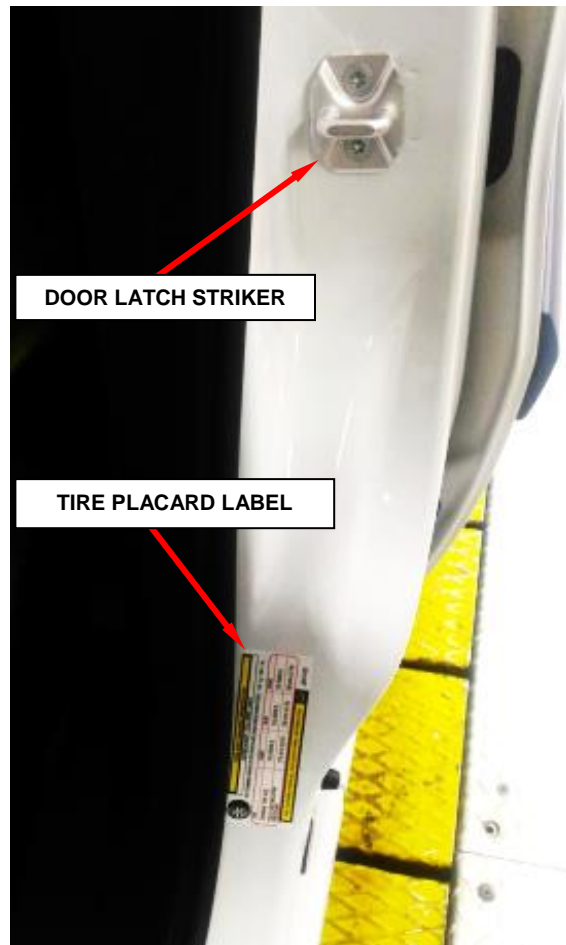

Figure 1 – Driver’s Side “B” Pillar
1. Open the driver’s door and locate the tire placard label on the driver’s side “B” pillar below the door latch striker as shown in (Figure 1).